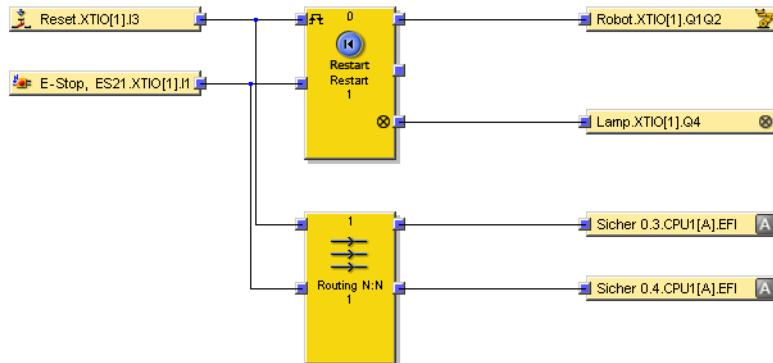

Figure 336: Logic example for Flexi Link routing
- ▶ Connect the outputs of the **Routing n:n** function block to the two CPU1[A] outputs (e.g., **Safe 0.3.CPU1[A].EFI1** and **Safe 0.4.CPU1[A].EFI1**, see figure 336, page 457).